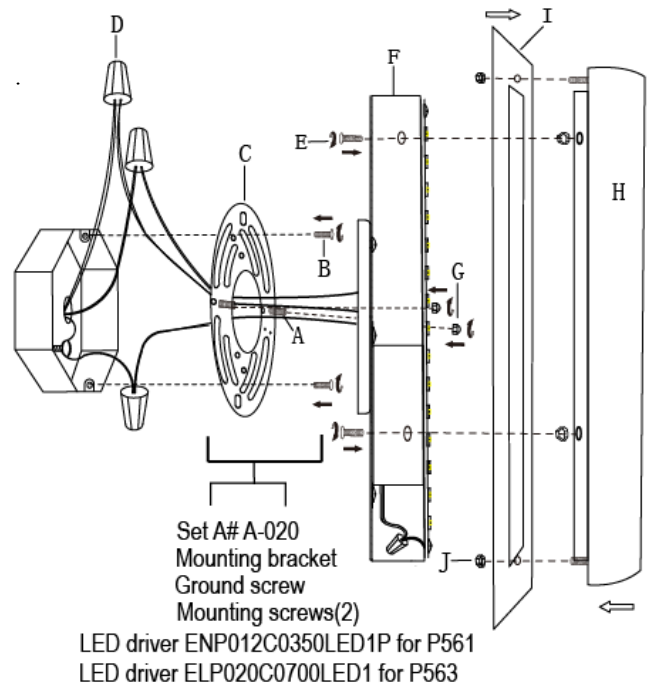

Fig. 1
CONNECTING THE WIRES (Fig. 1)
4. Connect the electrical wires as shown in Fig. 1, making sure that all wire connectors (D) are secured. If your outlet has a ground wire (green or bare copper), connect the fixture's ground wire to it. Otherwise, connect the fixture's ground wire directly to the mounting bracket using the green screw provided.
Note: Illustration (Fig.1) on this manual is for installation purposes only. It may or may not be identical to the fixture purchased.